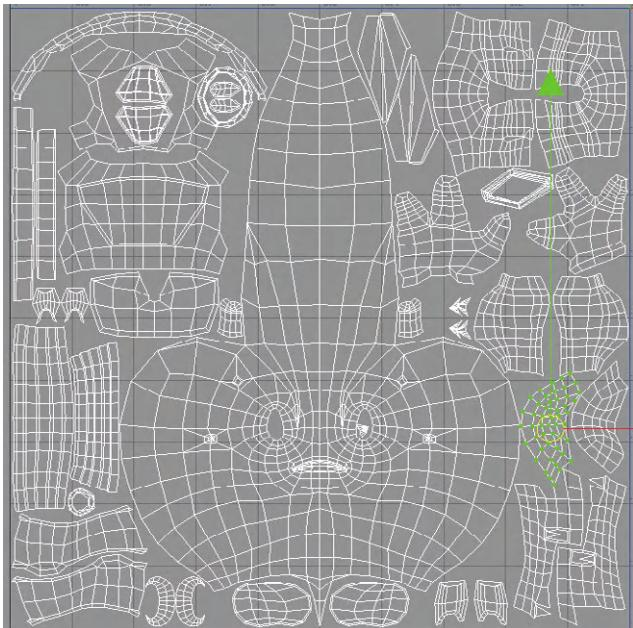

FIG 5.57 Assembling the puzzle that is the UV set up for the alien.
Step 39: Scale all the other shells at once and begin to maneuver them into place around the head. If you find that the shells won't fit, select them all and scale them all at the same time to maintain the relative size to each other (Fig. 5.57).